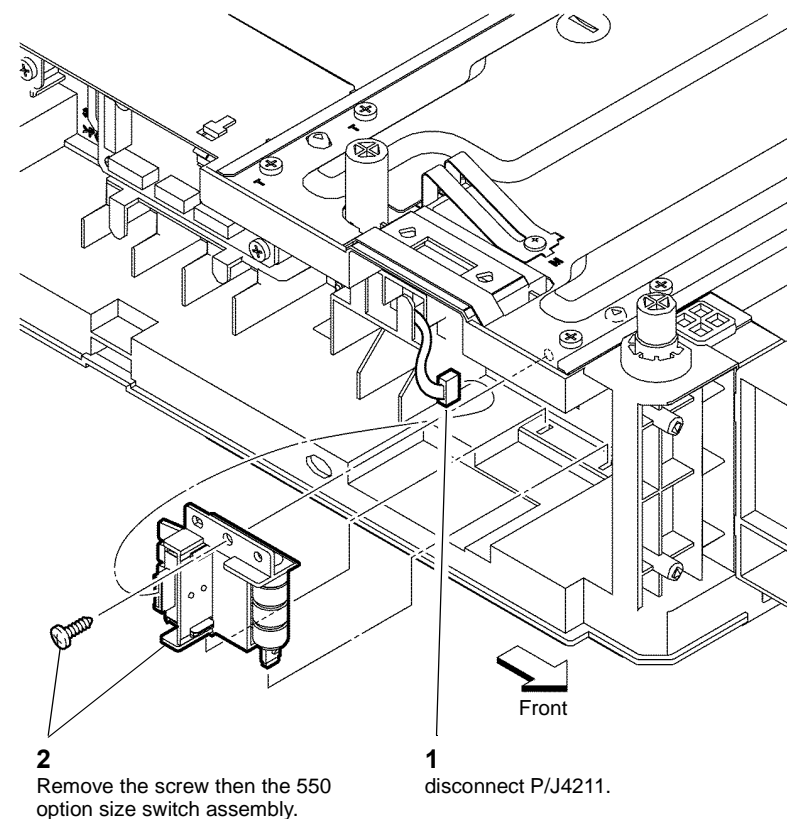

Figure 1 550 Size switch assembly
3. Remove the option size switch assembly, Figure 1.